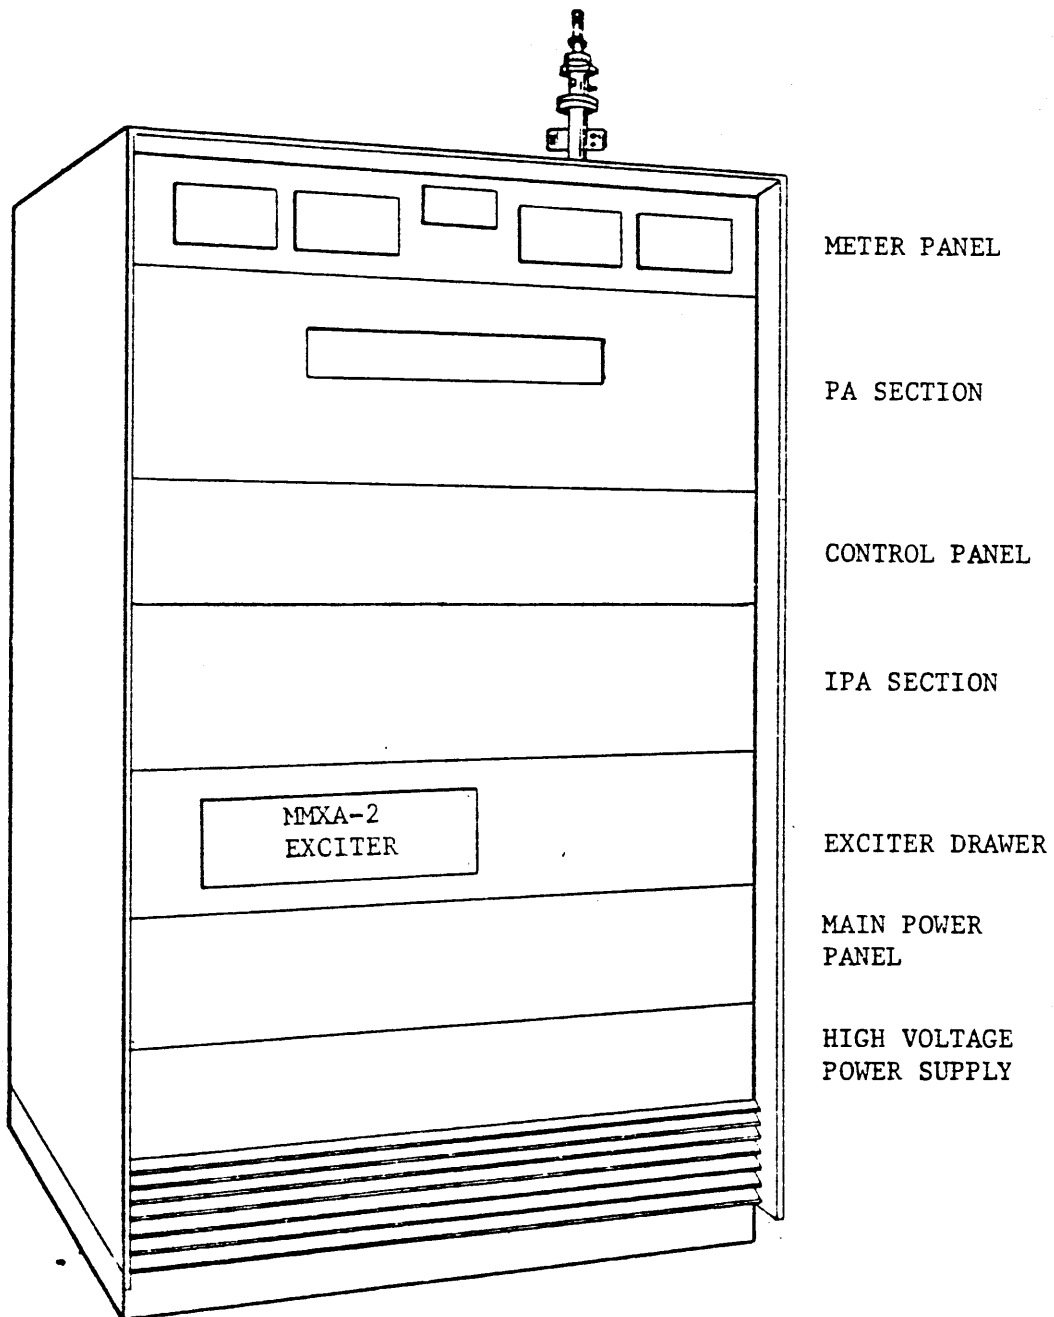

Figure 5-1. Component Location Diagram, HFTA-10KJ2
- b. Component location diagram (Figure 5-1)